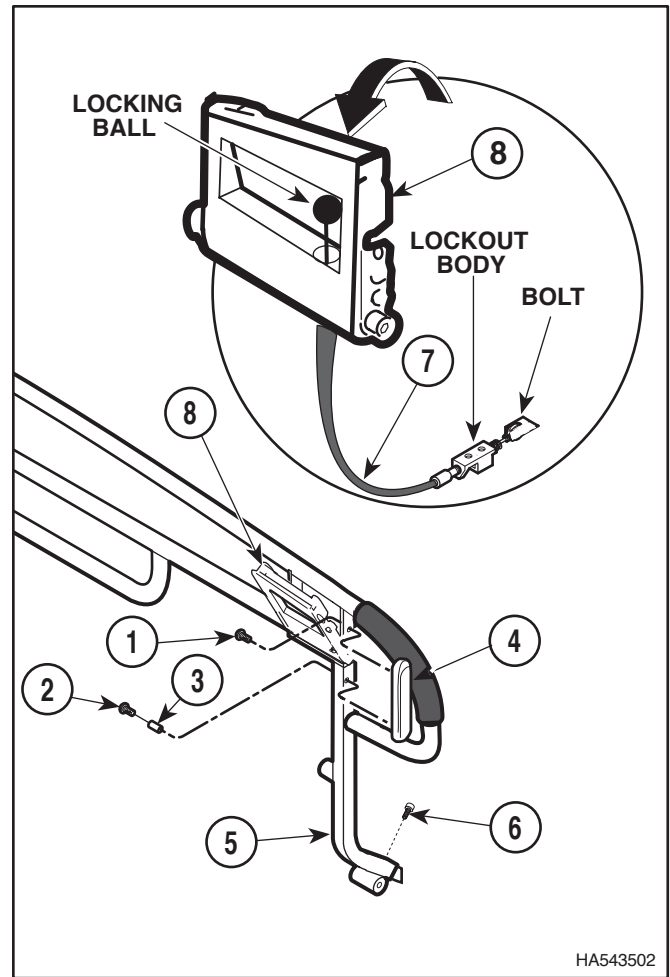

Figure 4-13. 750N and 750W Siderail Latch Assembly Removal / Installation
- (1) Remove screw (1, Figure 4-13), screw (2), spacer (3), and end cap (4) from siderail (5).
- (2) Remove two screws (6) securing lockout body of cable assembly (7) in siderail (5).
- (3) Push lockout body of cable assembly (7) into siderail as far as it will go.